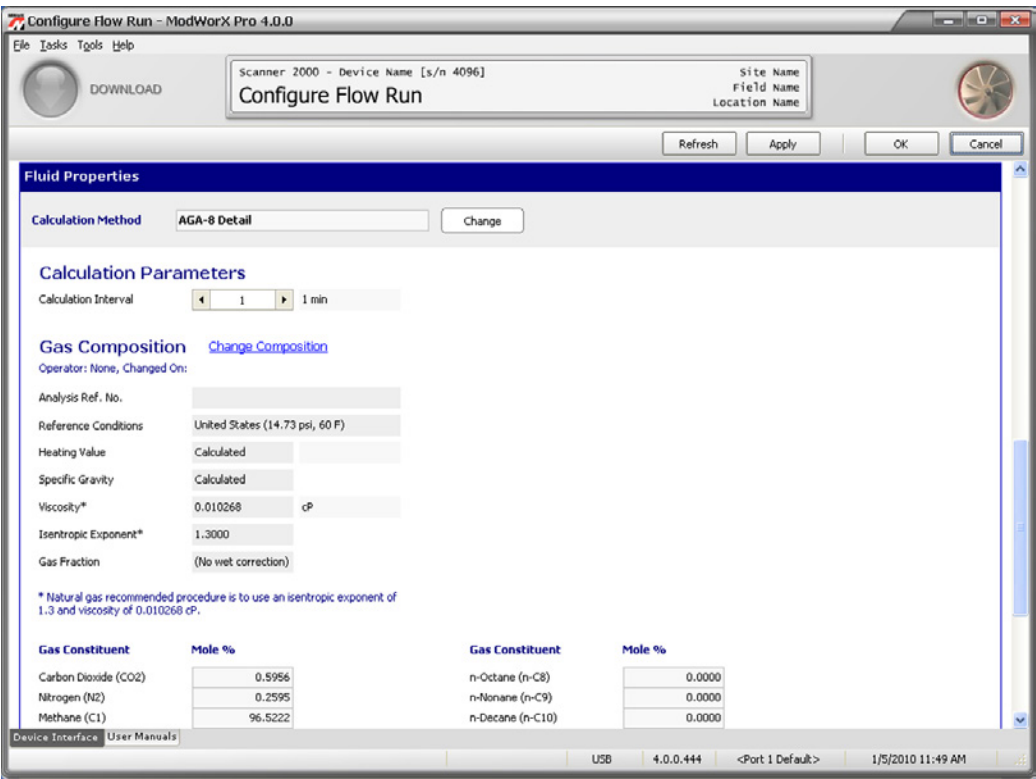

Figure 4.13
The contents of the Fluid Properties section of the Configure Flow Run screen vary, depending on the product being measured (gas, steam or liquid) and the fluid property calculation method selected. For example, when calculating gas flow with the AGA-8 Detail method, fluid property parameters include an extensive list of gas constituents (Figure 4.13, page 64). When the AGA-8 Gross method is used, only two gas constituents are configured. When calculating steam with a wet correction, only steam quality is configurable. Use the following steps to configure all fluid properties for the Scanner. When calculating liquid flow, density and viscosity values are configurable.
- If the flow run is configured for gas measurement, the Fluid Property section of the Configure Flow Run screen will display either Gas Composition information (AGA-8 Detail; see Figure 4.13), or Gross Method Parameters (AGA-8 Gross; see Figure 4.14, page 65). To change a parameter, click on the blue **Change Composition or Change Parameters** hyperlink and follow the screen prompts.